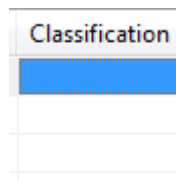

Figure 2. Column of type classification
- After all needed parameters are entered, click **Finish** button to create a column. The column of type classification is created (see Figure 2).